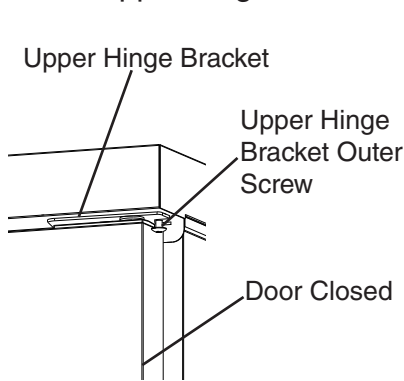
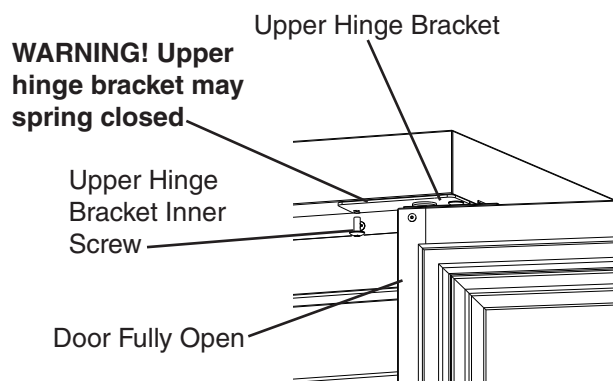

Fig. 27
Fig. 28
- 9) With the door closed, loosen, but do not remove, the upper hinge bracket outer screw. See Fig. 27. Next, open the door to the fully open position and remove the upper hinge bracket inner screw. See Fig. 28.